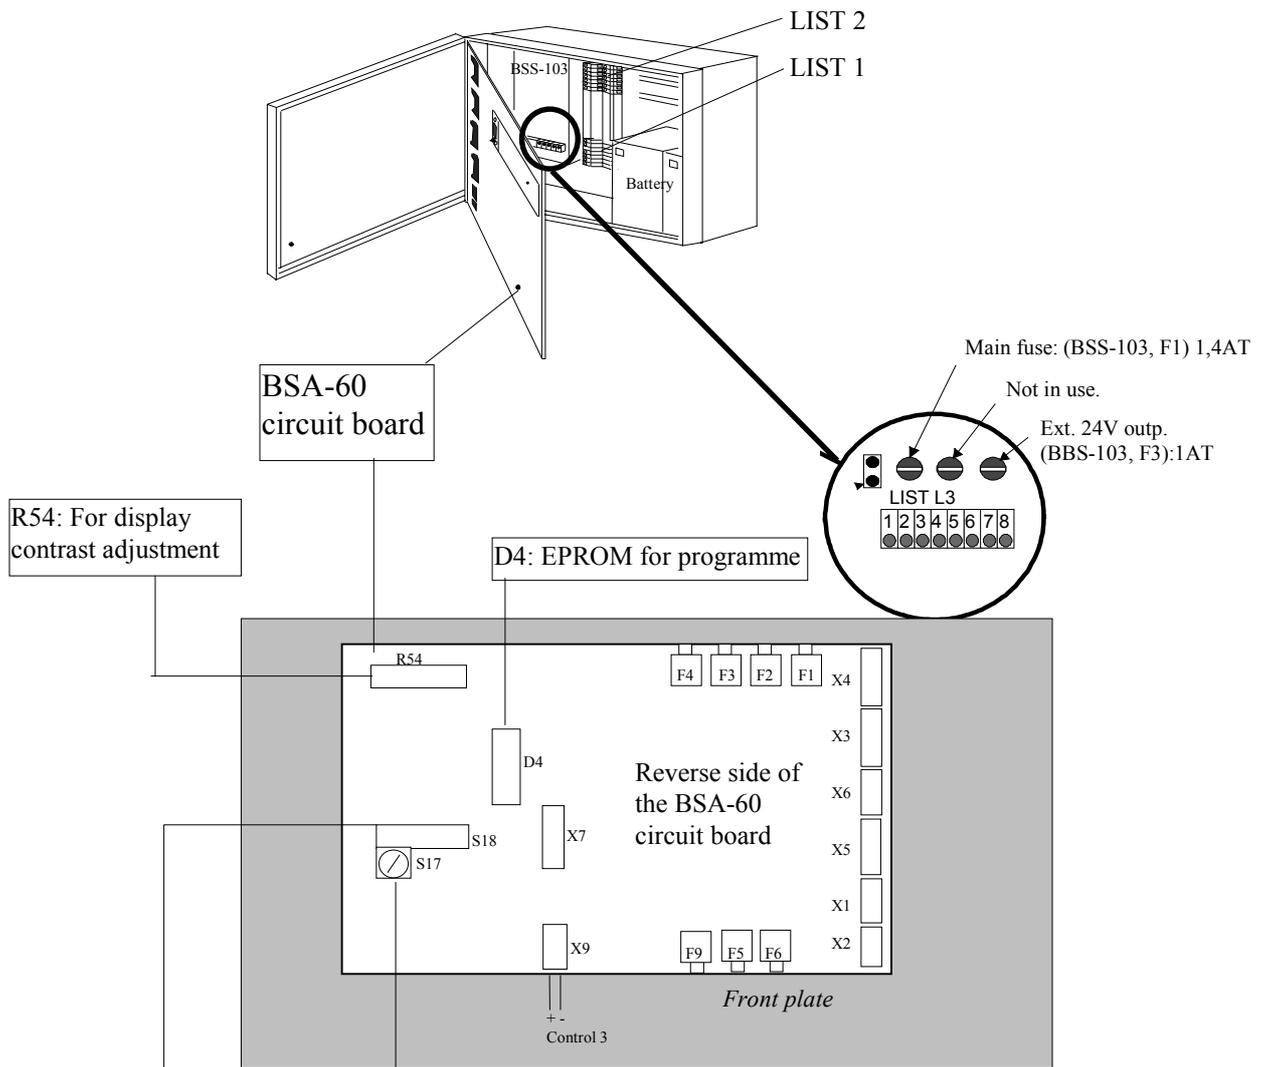

Fig. no. 1
- b) Disconnect the ribbon cables on List 1 and 2 check that the mains and battery fuses are removed. See fig. no. 1.
- c) Connect the fuses in accordance with fig. no. 1.